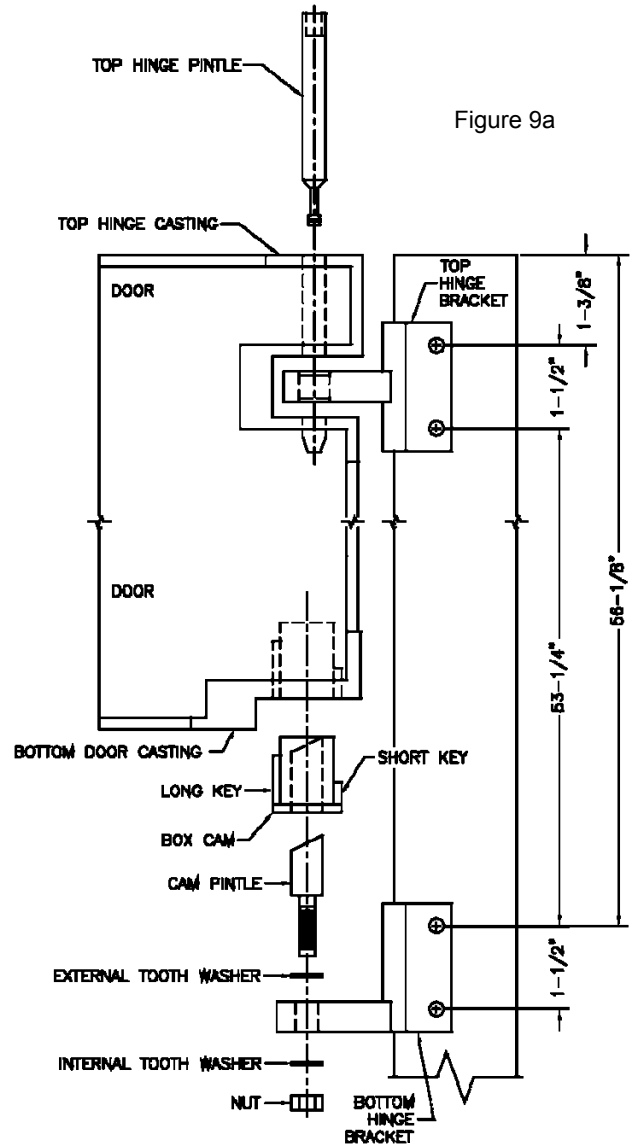

Figure 9a
- a. Attach top and bottom hinge brackets to pilaster with thru bolts (4-total). If pilasters were not pre-drilled at the factory, use dimensions shown in Figure 9a as a drilling ($\frac{1}{4}$ " bit) guide.
- b. Assemble cam pintle, external tooth washer, internal tooth washer, and $\frac{1}{2}$ " hex nut to the bottom hinge bracket as shown in Figure 9a and hand-tighten (to be wrench-tightened later).
- c. Insert box cam into bottom door casting as shown in Figure 9a, with short key pointing toward hinge side (edge) of door.
- d. Set door onto bottom hinge cam pintle. Bring door up so the top hinge casting is in line with the top hinge bracket as shown in Figure 9a. Insert the top hinge pintle and tap it down so it's flush with the top of the door.